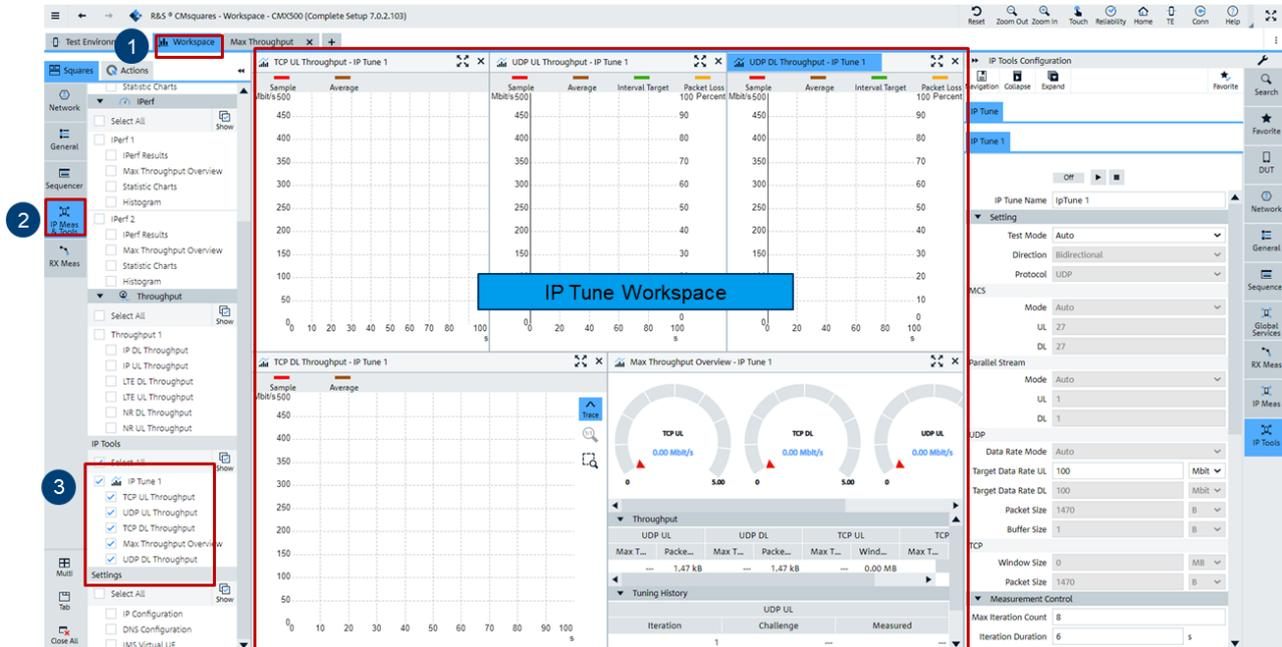

Figure 69 Create IP Tune workspace in CMsquares
4. Follow the steps shown in Figure 69 to create IP Tune workspace in CMsquares